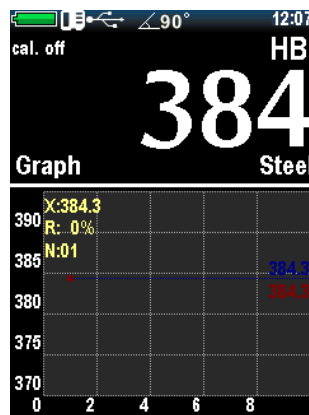

Figure 2.18 – The display after the measuring with the Leeb probe
12. After pushing the trigger button and the Impact Body hits the surface the measured hardness value will appear on the display. (Fig. 2.18).